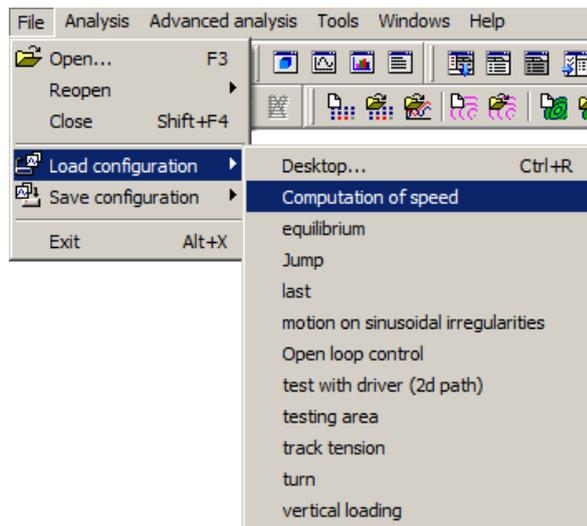

Figure 4.6. Reading of a full configuration
- b) *Other menu subitems*: reads a *full* configuration, which includes desktop, initial conditions, values of identifiers, as well as a special configuration if presented (e.g. a configuration for rail vehicles, car, tracked vehicle), Figure 4.6.